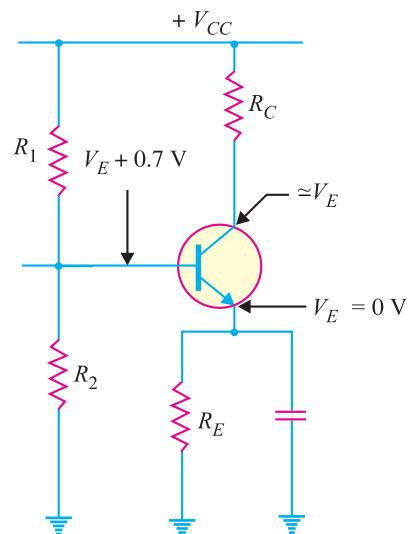

Fig. 9.53
10. What fault is indicated in Fig. 9.53 ? Give reasons for your answer. [RC is open]